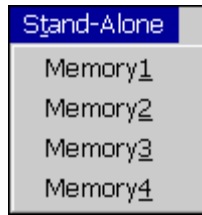

Figure 4-66 Stand-Alone Pulldown Menu
2. Click on **Stand-Alone** on the Master Control Panel menu bar to access the following pulldown menu (Figure 4-66):